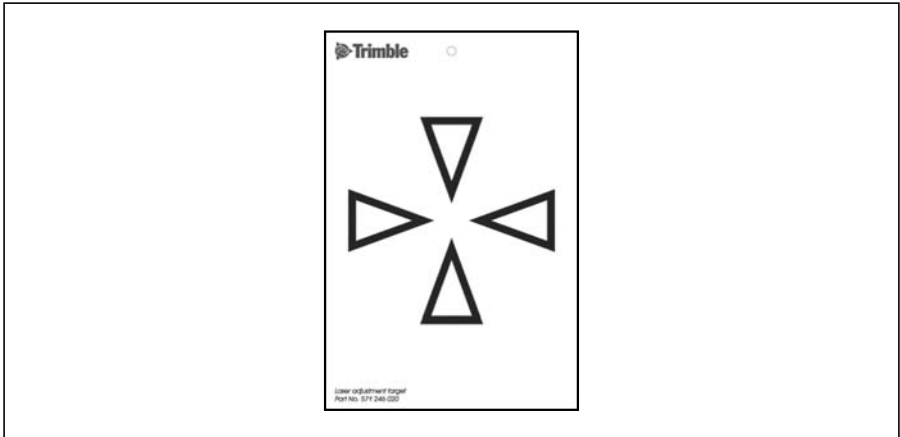

Figure 4.28 Adjustment target for DR Plus
4. If the red laser spot lies outside the cross-hairs, adjust the direction of the beam until it matches the cross-hairs, see Figure 4.28.